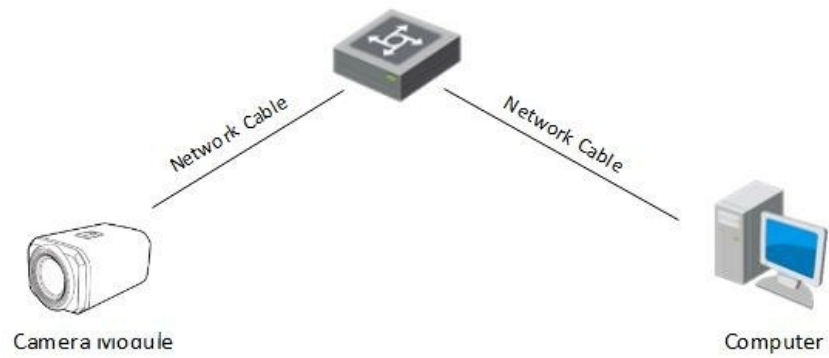

Figure 2-2 Connecting via a Switch or a Router
- Refer to Figure 2-2 to set the network camera over the LAN via a switch or a router.